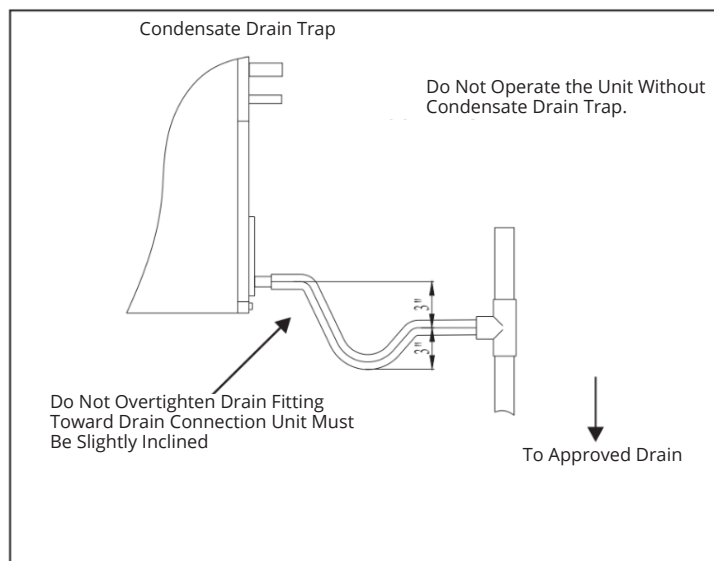

Figure 7-1
- Make sure the unit is level or pitched slightly toward primary drain connections to ensure water will drain completely from the pan as indicated in Figure 7-1.
- Make provisions for disconnecting and cleaning of the primary drain line should it become necessary. Install a 3 inch trap in the primary drain line as close to the unit as possible. Make sure that the top of the trap is below connection to the drain pan to allow complete drainage of pan. See Figure 7-1.